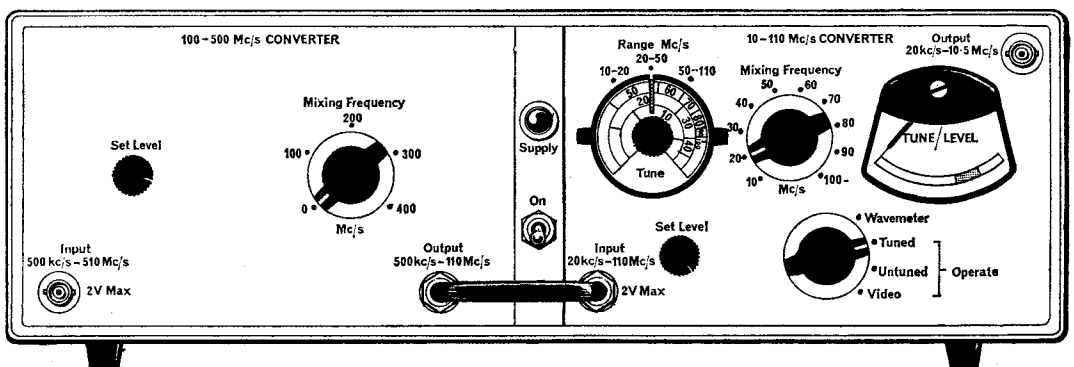

Fig. 15. Converter for Marconi TF1417 counter
35. **Converters for TF 1417/2 counter.** Two converter units are available to extend the range of the counter up to 110MHz with the TF 2400 converter alone (6625-99-1033677) or up to 510MHz if both converters are used in cascade. Figure 15 shows the two converters mounted in the same instrument case, suitable for standing on top of the counter unit. The standard frequency input socket at the rear of the converters is connected to the 1MHz standard frequency output socket on the rear panel of the counter unit using a special low capacitance coaxial connector. The input signal level required by the converters must not exceed 2V and the output signal is adjustable to provide the optimum level to the counter. This output level is also monitored on a meter and is about 1-2V when the meter reading is in the green band. A built-in wavemeter allows the approximate input frequency to be determined and so enables the harmonic generator controls to be set up correctly (mixing frequency). The harmonic used is *below* the input frequency and the counter reading is therefore *added* to it.
36. **Use as a wavemeter to find an unknown frequency.** The right hand side converter of figure 15 can be used to determine the approximate frequency of an input between 20kHz and 110.5MHz. The input is applied to the socket marked 'input 20Hz-110.5MHz' and the 'set level' control turned fully clockwise. Set the function switch to video and see if a deflexion is obtained on the meter. If a deflexion is obtained the set level control should be adjusted until the meter reads in the green band and the frequency counted normally (it is below 10MHz). If no deflexion is obtained, set the function switch to the wavemeter position and the range switch to the 10-20MHz position. Adjust the tune dial slowly to see if any deflexion occurs; if not alter the range switch and repeat. When a deflexion is obtained, adjust the tune dial until it is a maximum and then the set level control until the reading lies in the green band on the meter. Set the mixing frequency selector switch to the band shown below the red cursor of the tune dial and operate the converter in the tuned mode (see next para).